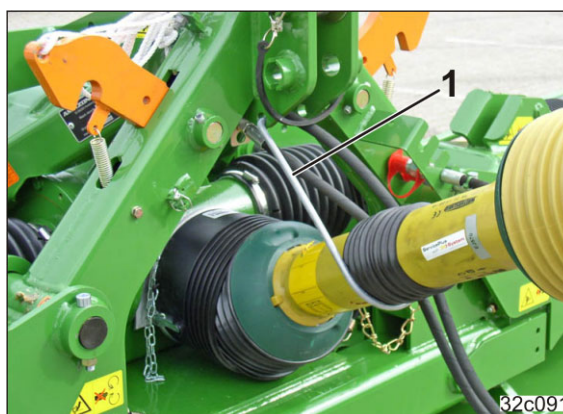

Fig. 79
12. Hook the universal joint shaft into the bracket (Fig. 79/1).